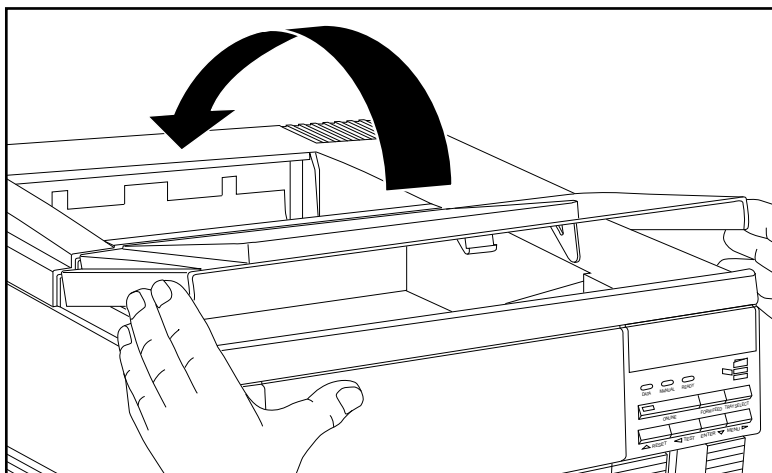

Fig. 10.4 Open the Top Cover
1. Open the top cover (fig. 10.4).